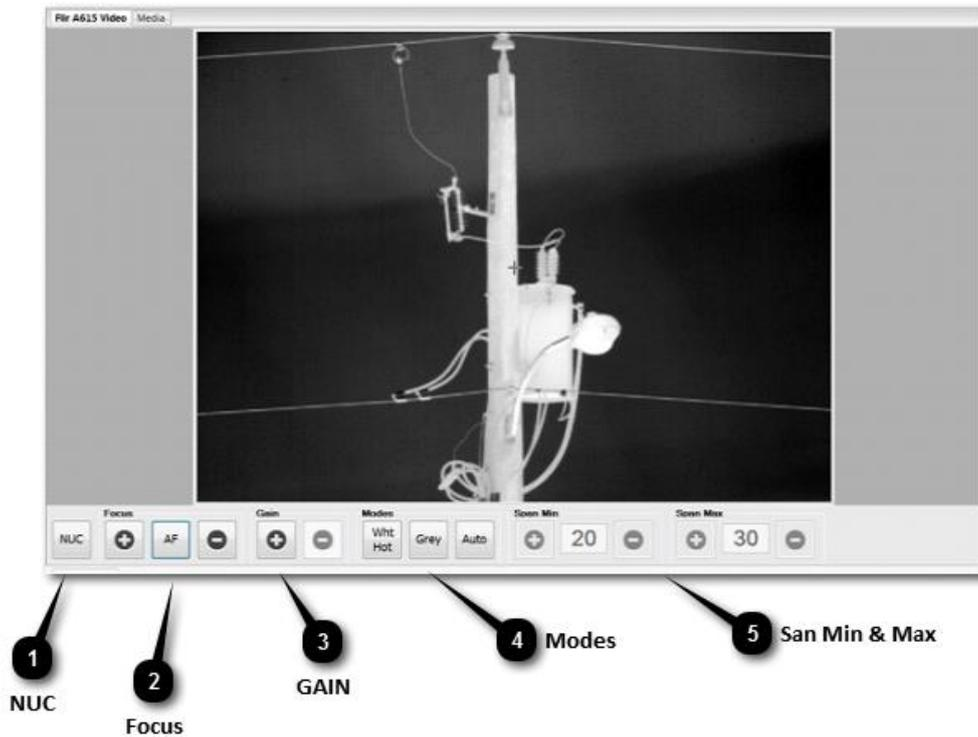

Figure 2 – Infrared Camera Controls in the View-in Main configuration
- Thermal radiometric infrared video camera (Figure 2)